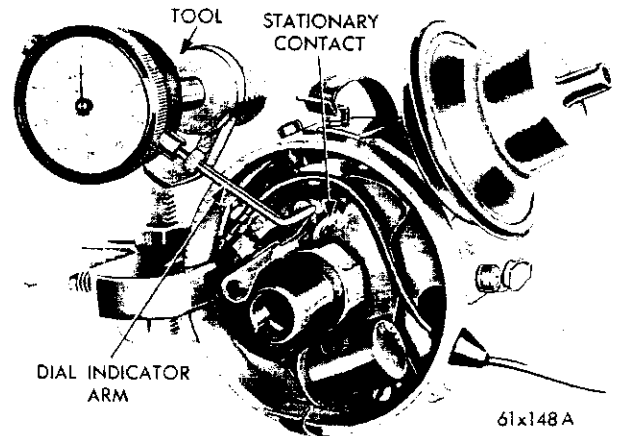

Fig. 88—Adjusting the Point Clearance with a Dial Indicator
(2) Align the contacts to obtain contact in the center of the points, by bending the stationary contact bracket only. Never bend the movable arm to obtain alignment.
(3) After aligning the contact points, readjust the point clearance to specifications using a dial indicator (Fig. 88).
(4) Test the dwell angle to show proper degree of closure. See Paragraph, "Distributor Point Dwell".